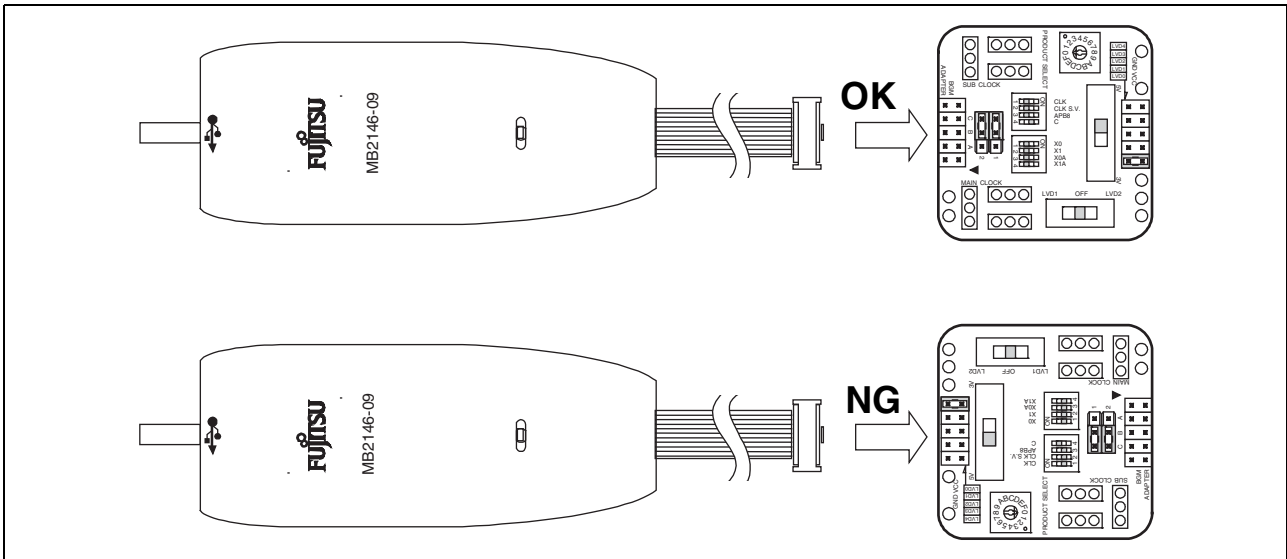

Figure 5 Connection direction of BGM adapter
- Be sure to connect the BGM adapter connector (CN3) correctly. The BGM adapter connector and the LVD2 detection voltage selector jumper plug have the same shape (see “Figure 5”). The MCU board may break if the BGM adapter connector is accidentally plugged into the LVD2 detection voltage selector jumper plug (S2) on the other side of the board.